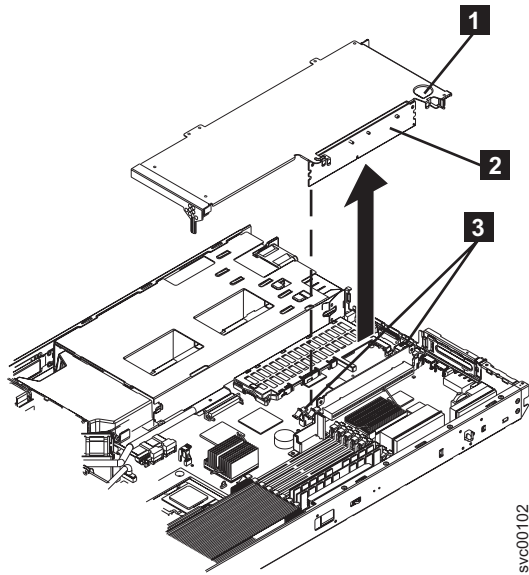

Figure 180. SAN Volume Controller 2145-8F2 or SAN Volume Controller 2145-8F4 slot 2 adapter
- a. Open the retaining clips on both sides of the slot 2 riser card (**2** in Figure 180 on page 185) by pushing the clips down and away from the riser card until the clips are no longer attached to the riser card.